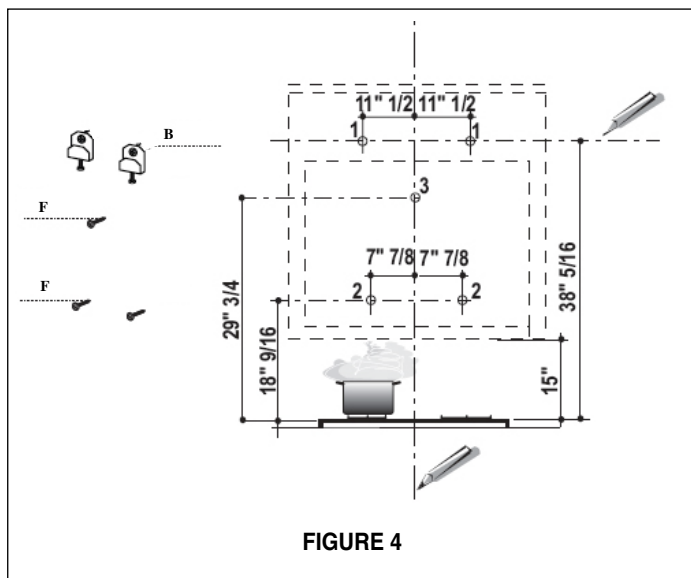

FIGURE 4
3. Draw a horizontal line at $38\frac{5}{16}$ " above the cooktop (as indicated in FIGURE 4). Mark two points (1) (in FIGURE 4) on the horizontal line, $11\frac{1}{2}$ " away from the center line on each side. Make sure both marks are level.
4. Mark two points (2) (in FIGURE 4) which are $18\frac{9}{16}$ " above the cooktop, and are $7\frac{7}{8}$ " on either side of the center line. Make sure both marks are level. Drill holes in marks 1, 2 and 3